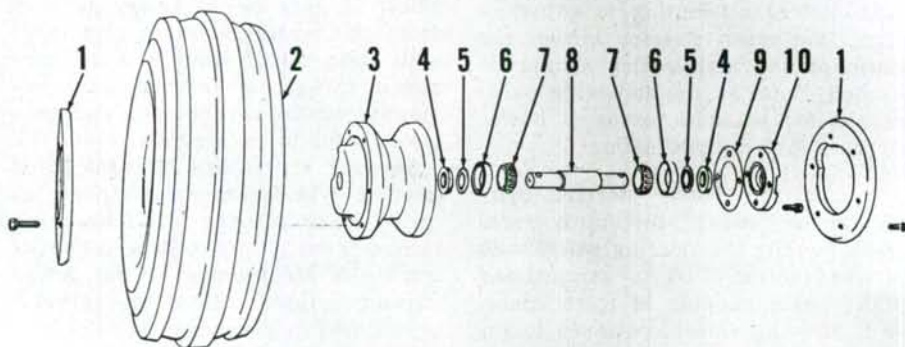

Fig. 2 — Exploded view of single front wheel assembly.
To renew bearing and/or seals, first remove wheel assembly; then, unbolt and remove bearing retainer (10—Fig. 2), seal (4), seal retainer (5) and shims (9). Drive or press on opposite end of spindle to remove spindle (8), bearing cones (7) and bearing cup from retainer side of hub. Then drive remaining seal and bearing cup out of hub. Remove bearing cones from spindle.